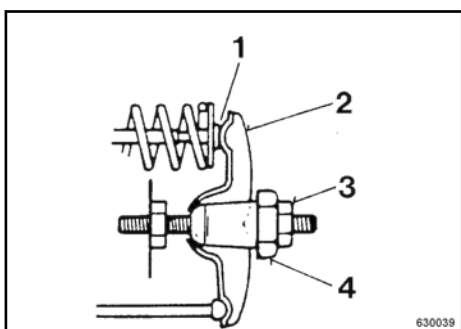

Fig. 54
Hold hexagon nut (4) ↪ Fig. 54 on the rocker lever and loosen counter nut (3).